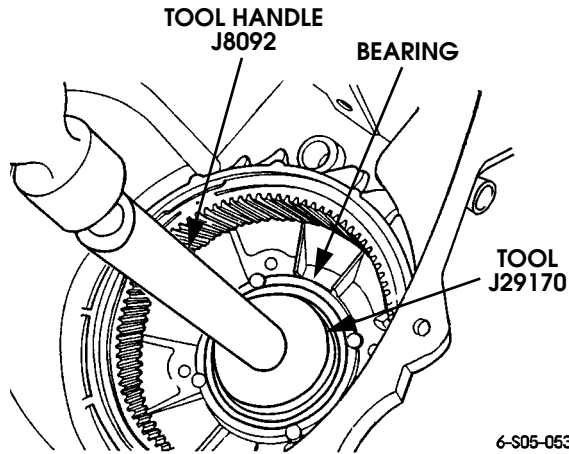

Figure 5-125: Input Gear Bearing Removal
1. Remove old bearing from interior of front case as shown. Use tool handle J8092 and tool J29170 (Figure 5-125).